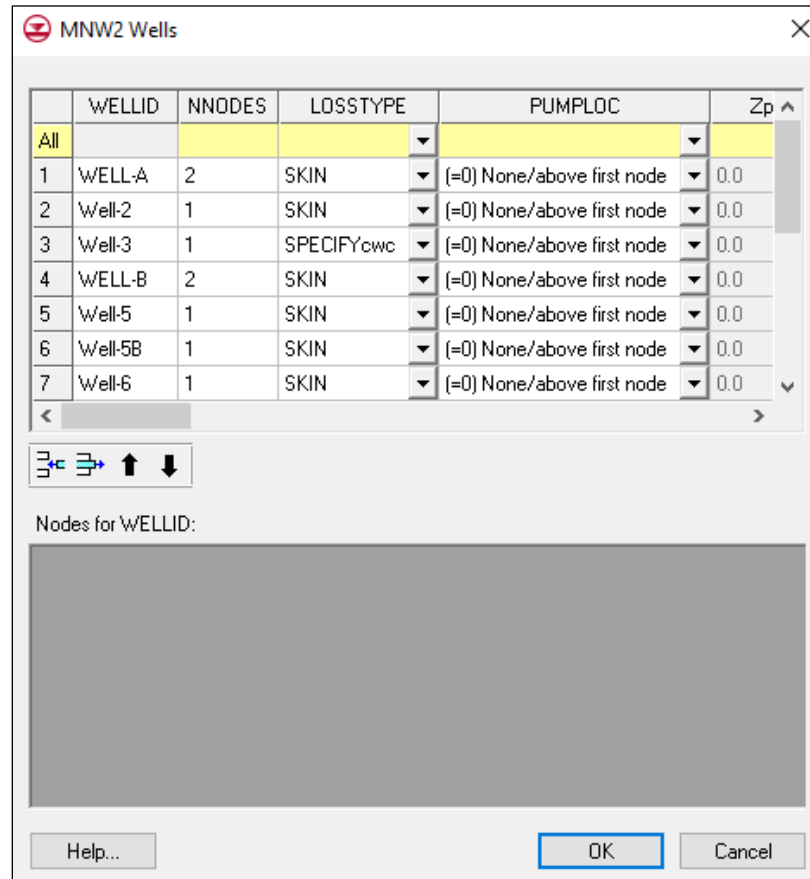

Figure 6 MNW2 Wells dialog
1. Click **Wells...** to open the *MNW2 Wells* dialog (Figure 6).